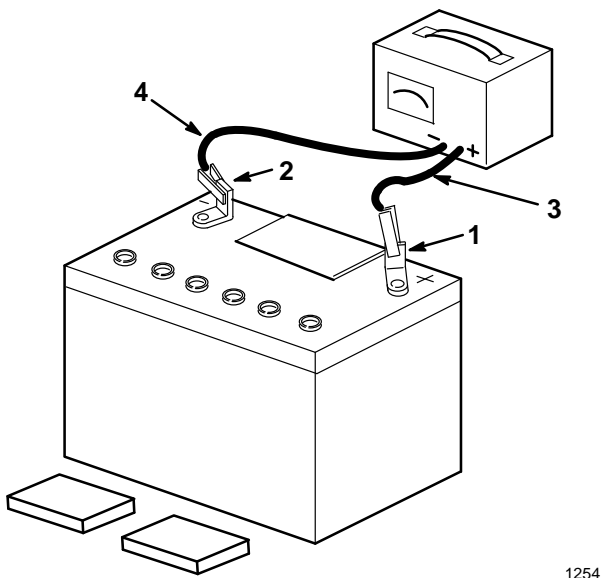

Figure 2
3. Leave the covers off and connect a 3 to 4 amp battery charger to the battery posts (Fig. 2). Charge the battery at a rate of 4 amperes or less for 4 hours (12 volts).
4. When the battery is fully charged, disconnect the charger from the electrical outlet then from the negative and positive battery posts (Fig. 2).